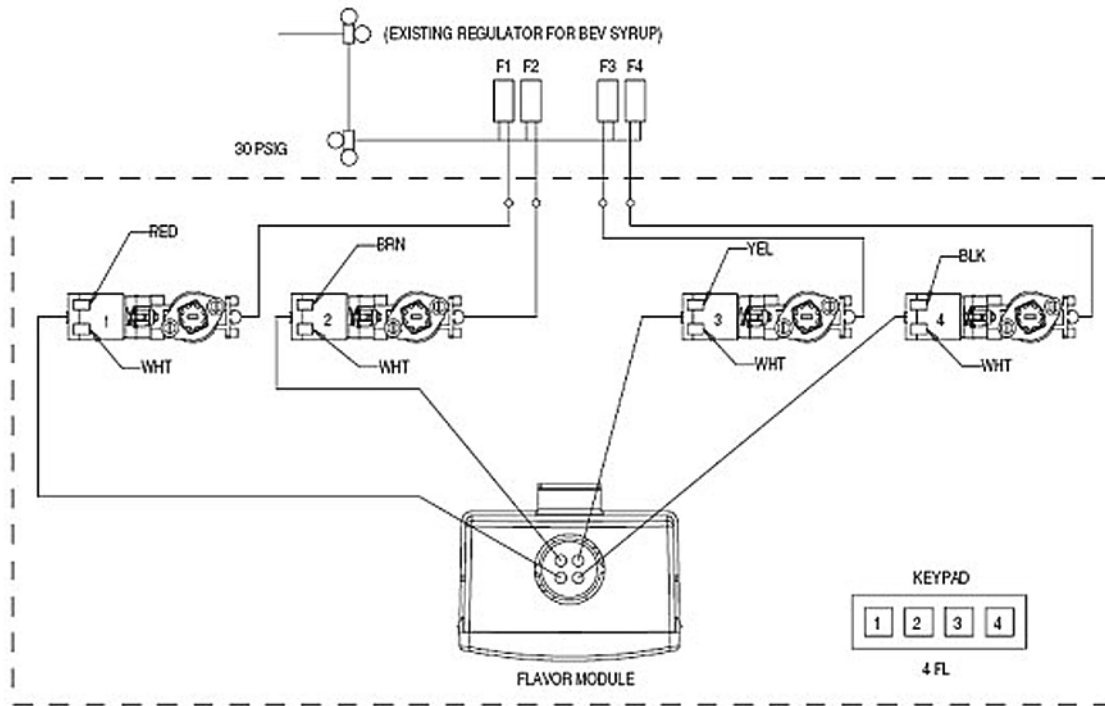

Figure 2.
1. Set-up flavors in Back-Room Package area as shown in Figure 2. CO₂ pressure must be set at 30 PSI and syrups must be ambient temperature.